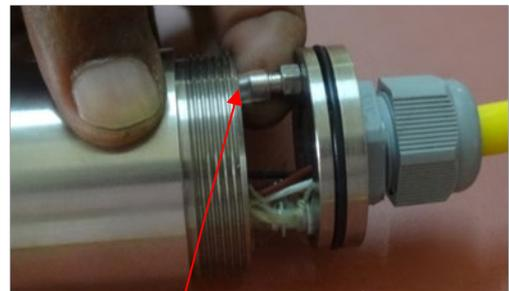

Figure 8-18: Connecting vent port
8.7.23 Connect the vent port to hydrophobic filter end as in figure 8-18.